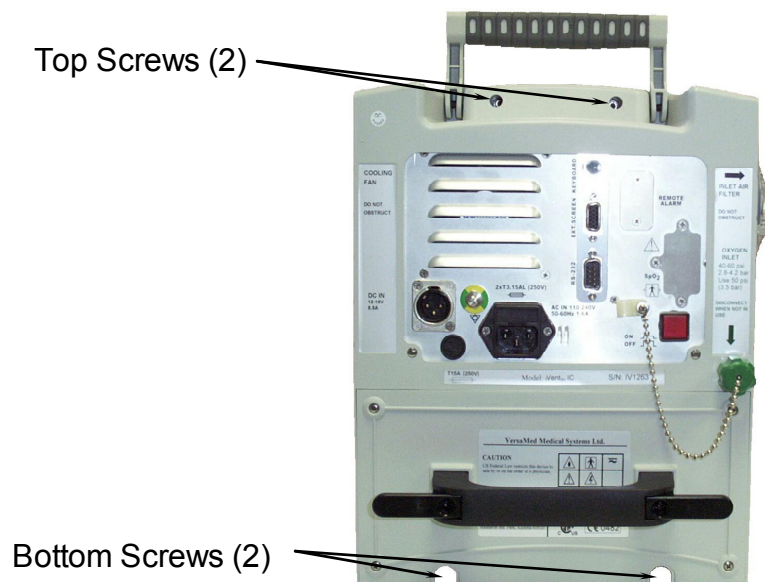

Figure 7-6: Enclosure (Rear View) #1
2. Detach the roll stand adapter plate from the bottom of the unit by removing the (4) 3mm x 8mm Phillips head screws and lock washers.
3. Use the hex key to remove the (2) 4mm x 30mm screws and washers from the bottom-rear of the enclosure (see Figure 7-6: Enclosure (Rear View) #1, page 116.)
4. Lift the ventilator carrying handle and use the hex key to remove the (2) 4mm x 50mm screws and washers from the top-rear of the enclosure (see Figure 7-6).